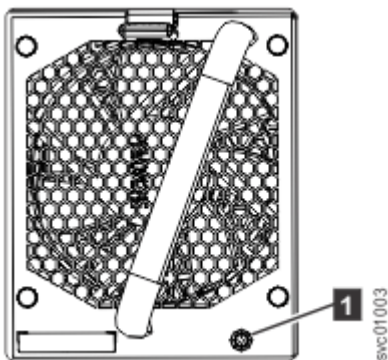

Figure 164. Fan module LED
1. Identify the fan module to be replaced. When lit, the amber LED on the front of the fan module (1 in Figure 164 on page 203) identifies a fault.